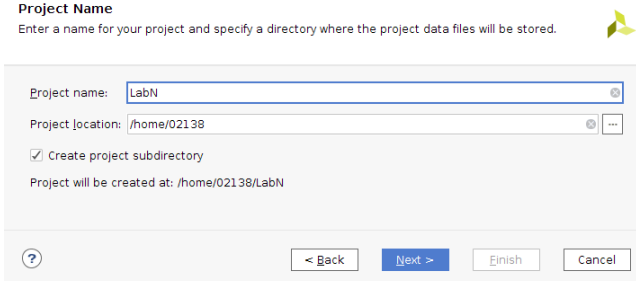

Figure 2 Vivado project wizard.
1. Start the Xilinx Vivado tool by clicking on the Vivado icon  from the desktop. Create a new project, by selecting “File -> New -> Project...” and name it (i.e., “LabN”). It is advised to place the project in a parent folder named as the course (i.e. “/home/02138”). Make sure there are no spaces in the path shown in “Project location”. Make also sure that the checkbox “Create project subdirectory” is ticked as shown in Figure 2. Press “Next >”.